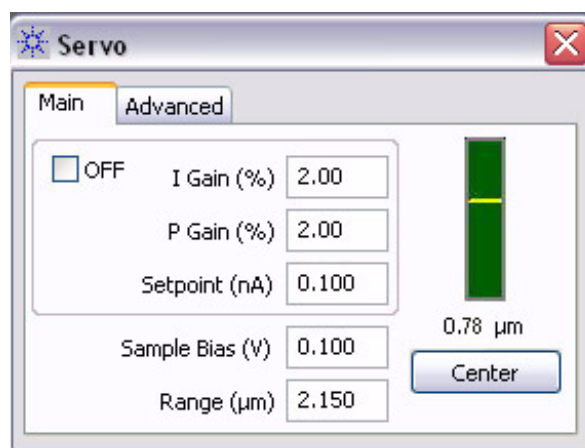

Figure 84 Servo window settings for STM imaging
- 9 In the **Servo** window enter the **Bias Voltage** (Figure 84). Typical values are 50-200 millivolts (0.05-0.200 V). A positive bias indicates current flow *from* the tip to the sample, and vice versa for negative bias.